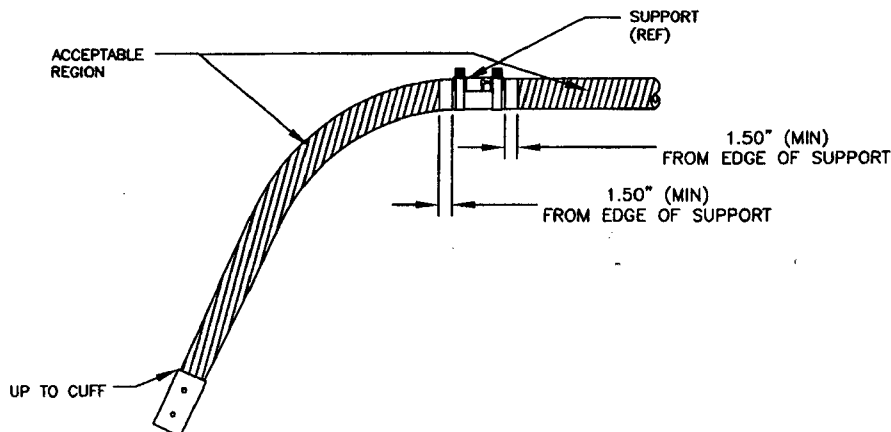

FIGURE 1 — ACCEPTABLE REGIONS TO BE COATED WITH ARMOR SHIELD
To designate crosstubes with 'Armor Shield' add 'A' to the Part Number. For example, D206-667-101A is a D206-667-101 crosstube coated with Armor Shield. It is acceptable to apply the Armor Shield in regions shown in Figure 1 only. It is **NOT** acceptable to apply Armor Shield in the cuff and support/clamp regions.
- 2) Mask areas around supports and cuffs per Figure 1. Abrade paint finish in areas requiring protection using 320 grit sandpaper.